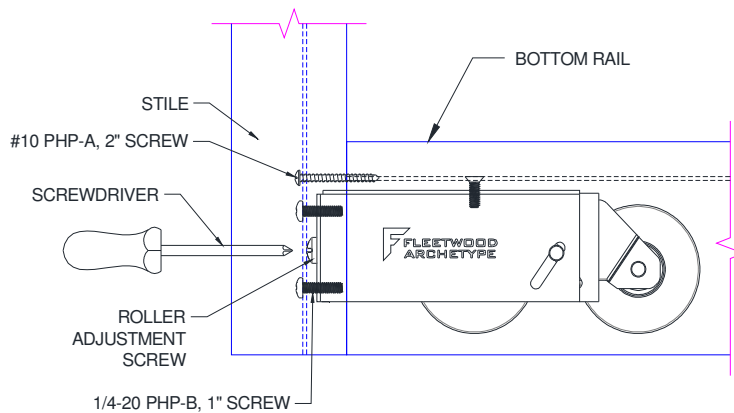

Figure 10:
1. Adjust the roller assemblies (2 required per "X" panel) to the full up right position using the adjustment screw (Figure 10).
7. Install (2) 1/4-20 UNC x 1" long pan head screws to bottom of interlocker stile or lead stile. Screws attached vertical rails to Roller Housing (Figure 10).